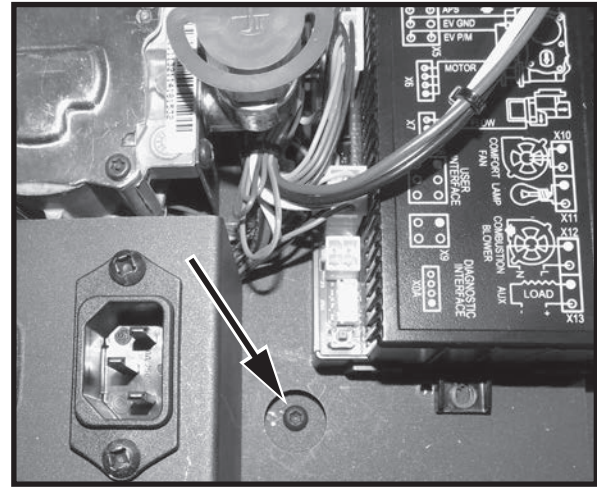

Figure 65: Remove lower screw.
16. Remove the single screw located between the power receptacle and the control module (Figure 65).